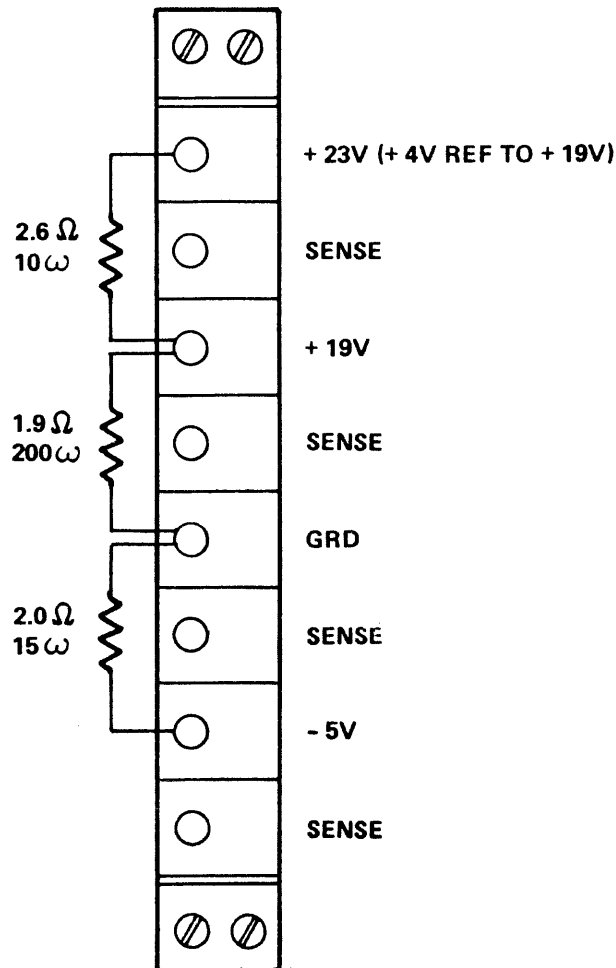

Figure 4-15. Memory Supply Dummy Load Connections
- d. Install load resistors on the supply outputs (refer to figure 4-15) as follows: